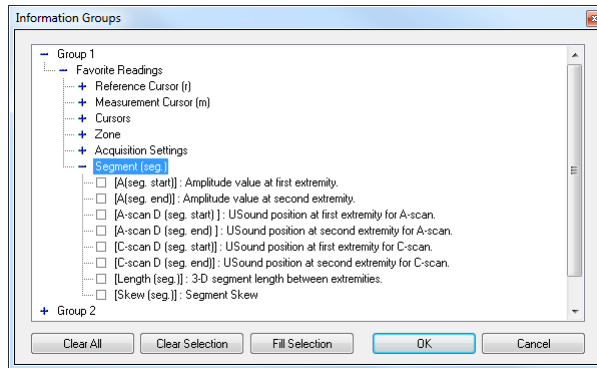

Figure 7-56 The 3-D Cursor (segment) parameters
- b) Select the **Segment (seg.)** readings that you want to display (see Figure 7-56 on page 398).